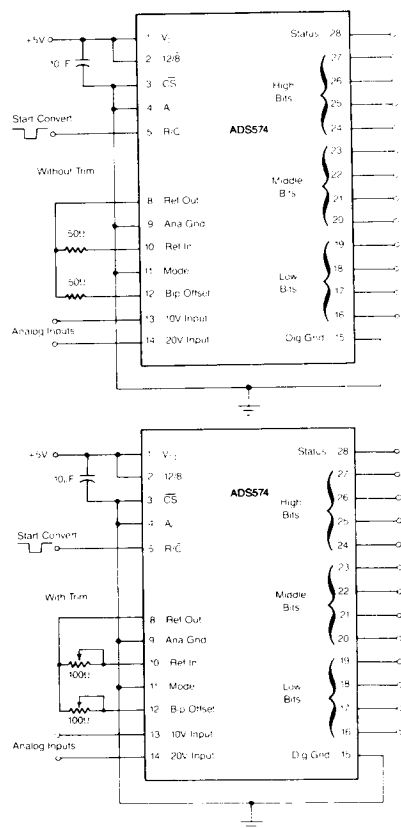

Figure 8. Bipolar Connections
**BIPOLAR OPERATION AND CALIBRATION** — Analog input connections and calibration circuits for the bipolar operating mode are shown in Figure 8. If the  $\pm 5$ V input range is to be used, apply the analog input to Pin 13. If the  $\pm 10$ V range is to be used, apply the analog input to Pin 14. If either bipolar offset or bipolar gain adjustments are not to be used, the trimpots should be replaced by fixed, 50Ω  $\pm 1\%$  metal-film resistors to meet all published specifications.